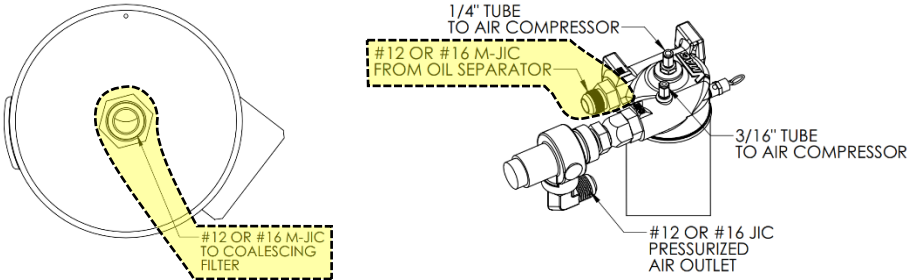

Figure 12 – Oil Separator Air Line Connection
- Connect the air hose from the center outlet side of the oil separator tank to the left fitting on the coalescing filter labeled “IN” (Figure 12). Use a second wrench to support the fitting on the component and prevent it from spinning when tightening. The recommended hose size is #12 (3/4”) hose for VR90 and lower air flow systems and #16 (1”) hose for VR130 and higher air flow systems.